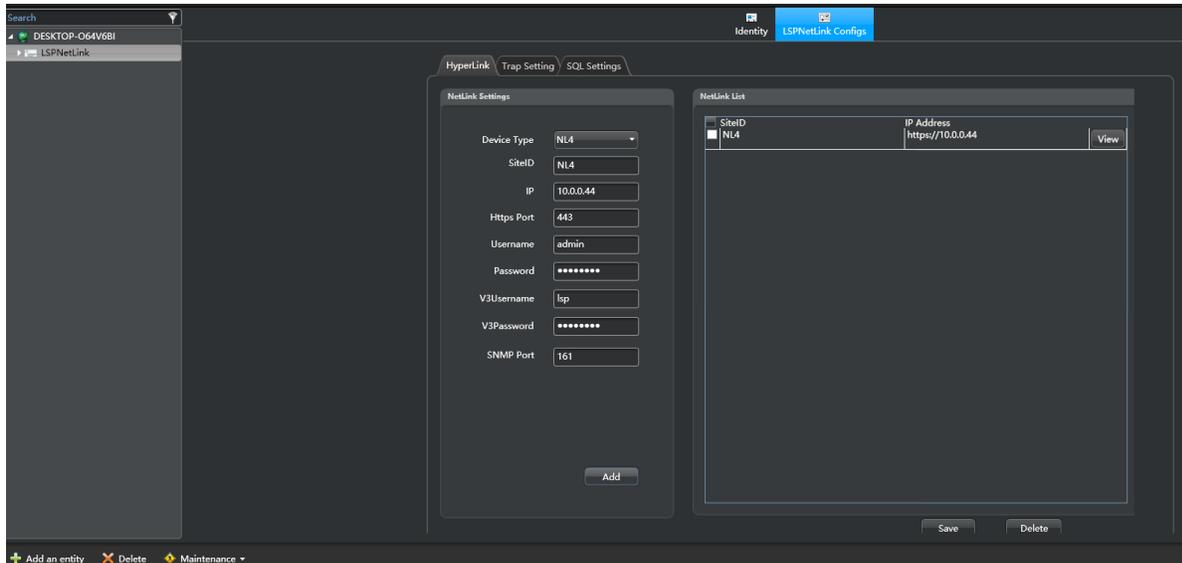

Figure 22
- Enter the Device Type, SiteID, IP address, HTTPS port, user name, and password for the NetLink to be added. Enter the SNMP V3 user name and password and the SNMP Port (ensure the information added matches the information on the configure page of the NetLink board). (Figure 22)
- Once the information is entered, click Add to save the NetLink hyperlink and the NetLink will be added to the NetLink List. (Figure 22)